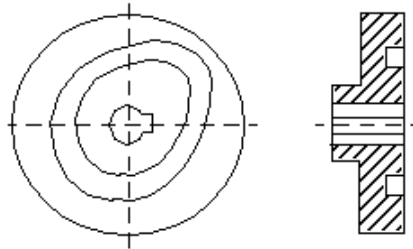
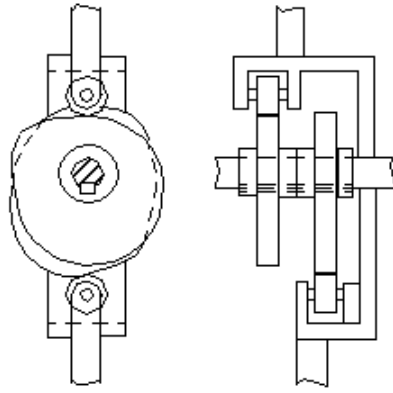

Figure 6-4 Grooved cam
Figure 6-6 Constant diameter cam
2. **Grooved cam** or closed cam (Figure 6-4):
A groove maintains positive action. (Figure 6-4 and Figure 6-5a) For the cam in Figure 6-6, the follower has two rollers, separated by a fixed distance, which act as the constraint; the mating cam in such an arrangement is often called a *constant-diameter cam*.